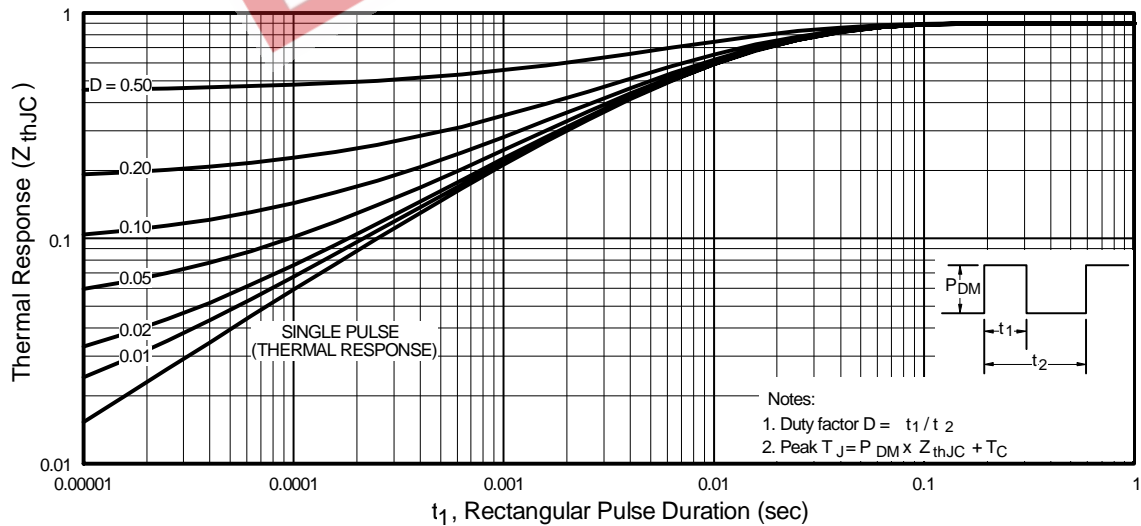

Fig 11. Maximum Effective Transient Thermal Impedance, Junction-to-Case
- ① Repetitive rating; pulse width limited by max. junction temperature. ( See fig. 11 )